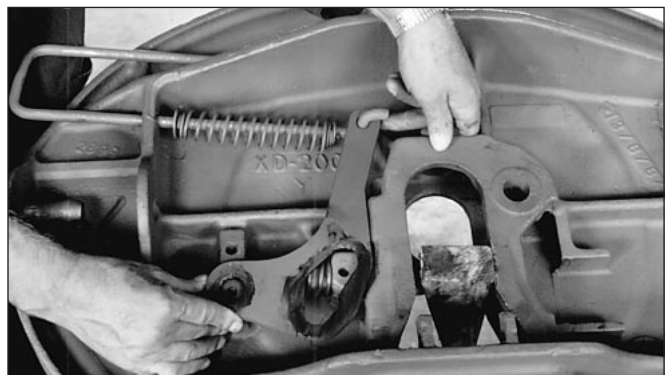

Figure 4
1. Install a 9/16" I.D. washer over the open end of the handle then pass the open end of the release handle through guide hole (A) toward the outside of the top plate.
4. Position cam plate on the casting with the large hole in cam plate in line with the lower cam anchor hole (B) (*see Figure 4*).